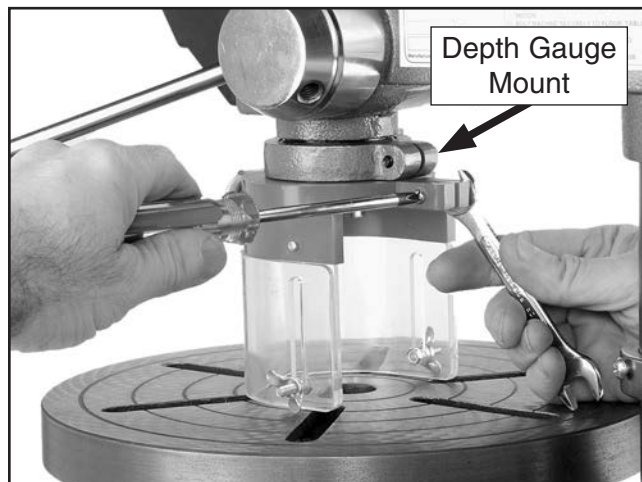

Figure 21. Installing chuck guard assembly.
22. To install chuck guard, place chuck guard over flange of depth gauge mount, as shown in **Figure 21**, then tighten Phillips head screw and hex nut to secure it.